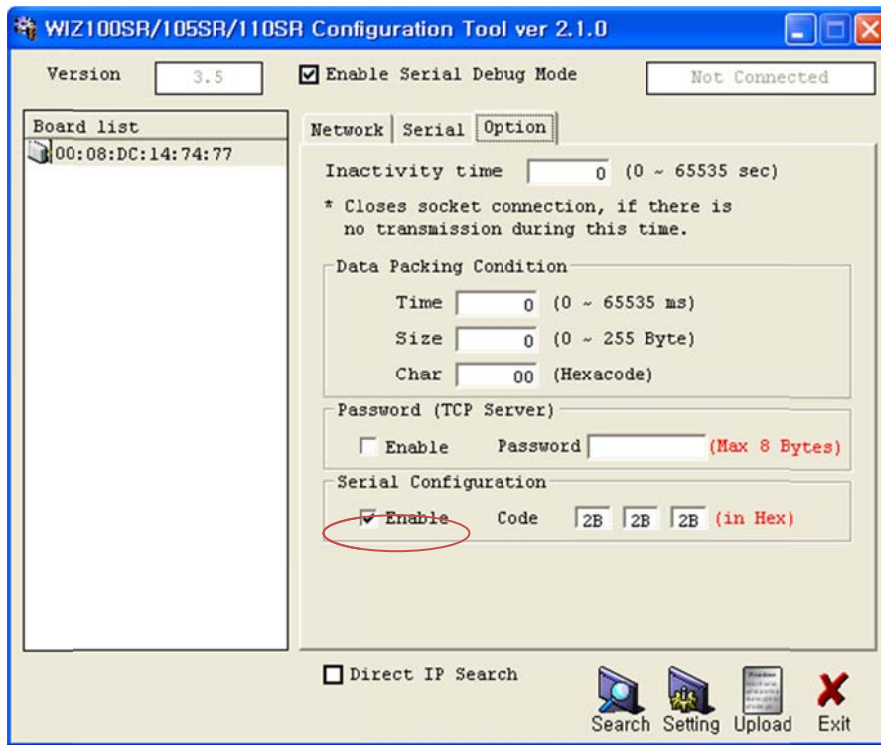

Figure 14. Serial Configuration Enable Setting
④ When uploading is complete, a message box with "Complete Uploading" will be displayed as shown in Figure 14.